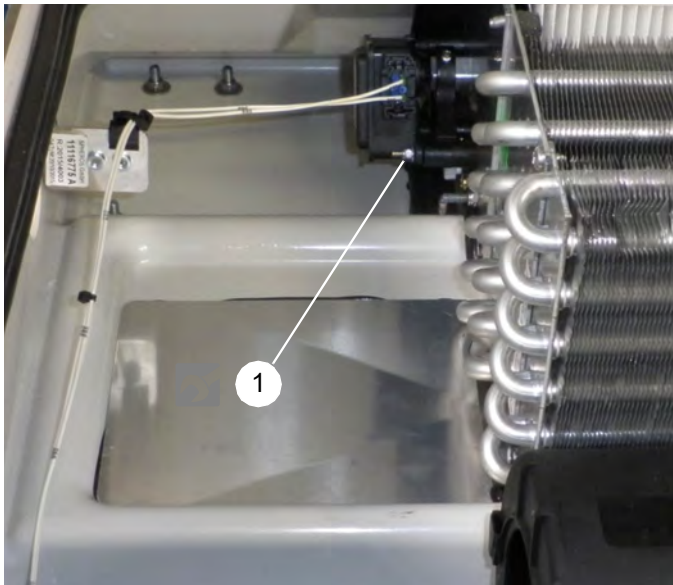

Fig. 907
- Remove 3 nuts that were attached to damper motor and remove damper motor (1, Fig. 907).
- Place the motor into the location of installation and attach with 3 nuts (1, Fig. 907).